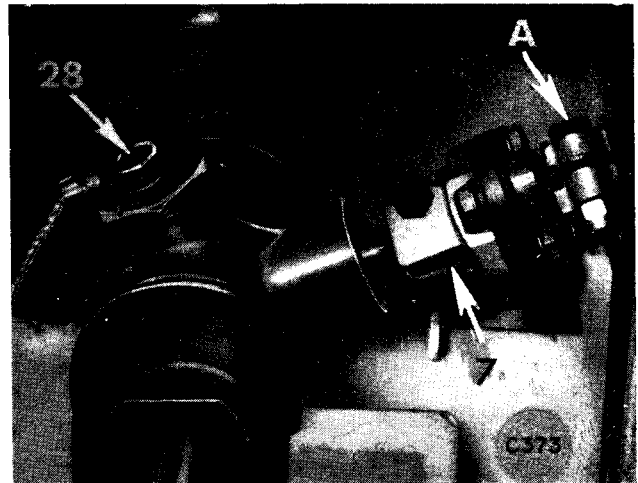

Fig. 23. Steering unit coupling
1. Remove the bolt (A) from the steering coupling (7), Fig. 23.
2. Fit the cable trough and the lower half of the upper support clamp (40).
3. Fit the lower clamp (30) with felt (29) and secure with nuts (34) and washers (33) and (32).
4. Position the steering wheel at the desired height and tighten the clamps (30) and (40).
5. With the steering wheel and road wheels in the straight ahead position, engage the lower column (1) with the steering coupling Fig. 23, and secure with the pinch bolt and nut "A".